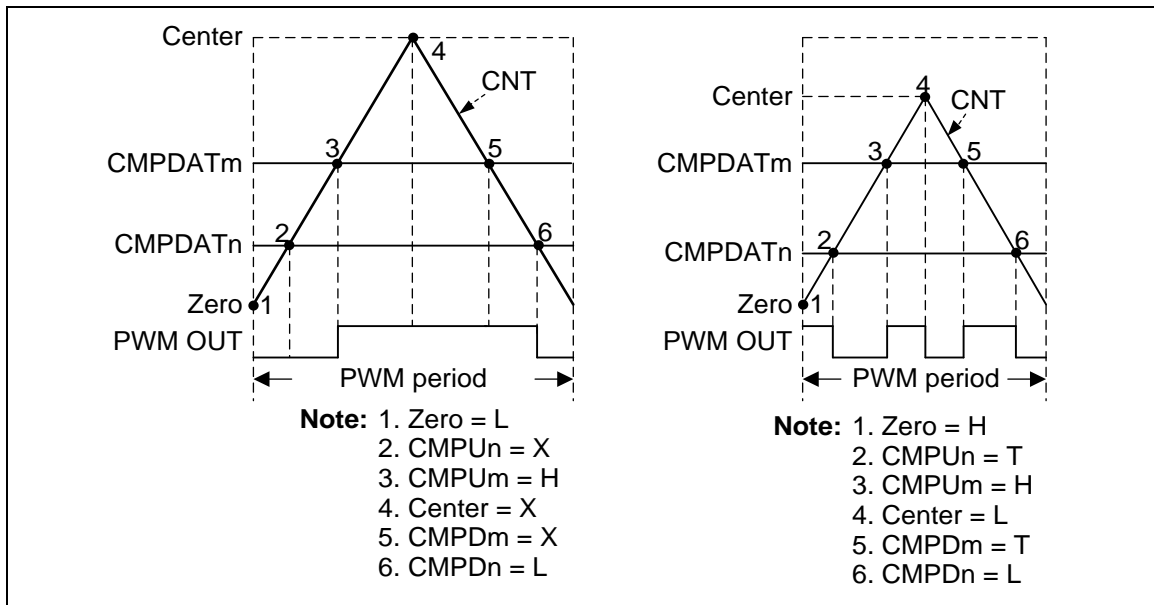

Figure 6.9-15 PWM Pulse Generation
Each event point can decide PWM waveform to do nothing (X), set Low (L), set High (H) or toggle (T) by setting PWM_WGCTL0 and PWM_WGCTL1 registers. Using these points can easily generate asymmetric PWM pulse or variant waveform, as shown in Figure 6.9-15. In the figure, PWM is in Complementary mode. There are two comparators n and m to generate PWM pulse. n denotes even channel number 0, 2, 4, m denotes odd channel number 1, 3, 5. n and m channels are complementary paired. Complementary mode uses two channels (CH0 and CH1, CH2 and CH3, CH4 and CH5) as a pair of PWM outputs to generate complement paired waveforms. CMPU denotes CNT is equal to CMPDAT when counting up. CMPD denotes CNT is equal to CMPDAT when counting down.